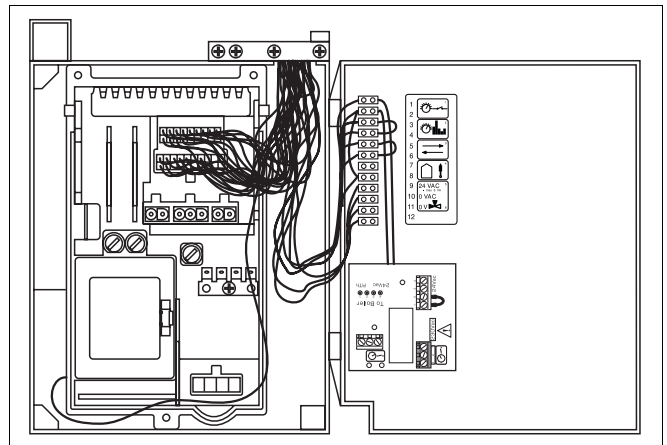

Fig. 86 Opening the UBA housing
- Push in UBA housing on left-hand side and open to the right (fig. 86).